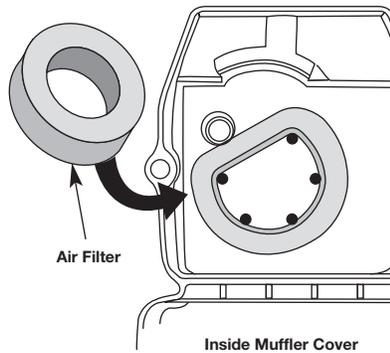

Fig. 36
2. Turn cover over and look inside to locate the air filter. Remove the air filter from inside the air filter/muffler cover (Fig. 36).
6. Replace the air filter inside the air filter/muffler cover (Fig. 36).